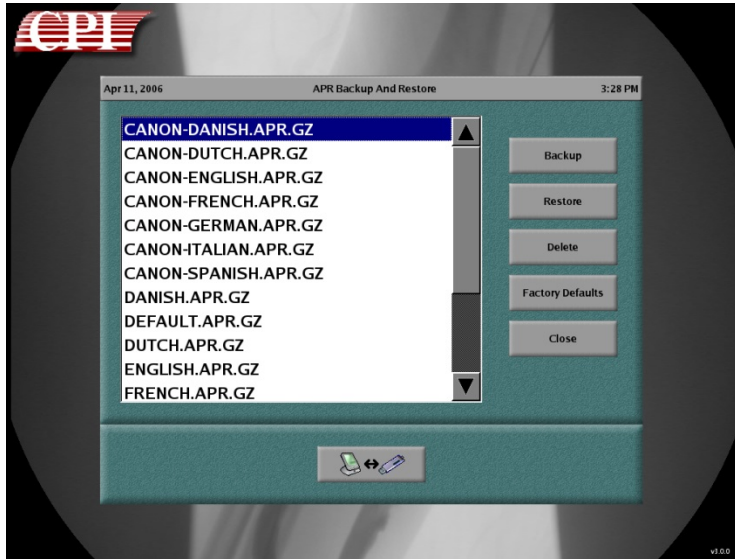

Figure 3-30: APR Back-up and Restore Window
1. From the system utilities menu, press **APR Backup / Restore**. A pop-up window (Figure 3-30) will display showing the available backup files and the factory-default APR files in various languages. Pressing **Close** will exit the backup and restore menu.